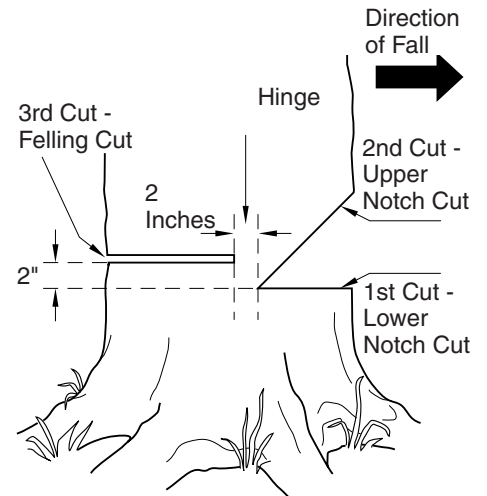

Figure 11 - Felling A Tree
A properly placed felling notch will determine direction tree will fall. Place felling notch on side of tree in direction you want tree to fall (see Figure 11). Follow directions below to create a felling notch.
1. Make lower notch cut as close to ground as possible. Hold saw so guide bar is horizontal. Cut 1/3 the diameter of tree trunk (see Figure 11). *Note:* Always make this horizontal lower notch cut first. If you make this cut second, tree can pinch chain or guide bar.
Example: If lower notch cut is eight inches deep, start upper notch cut eight inches above it. Cut downward at 45° angle. The upper notch cut should meet end of lower notch cut (see Figure 11).
1. Make felling cut two inches higher than lower notch cut and on opposite side of tree (see Figure 11). Keep felling cut parallel to lower notch cut.
⚠ WARNING: Do not cut all the way through tree. Leave about two inches of tree diameter uncut directly behind felling notch (see Figure 11). This uncut portion acts as a hinge. The hinge helps keep tree from twisting and falling in wrong direction.